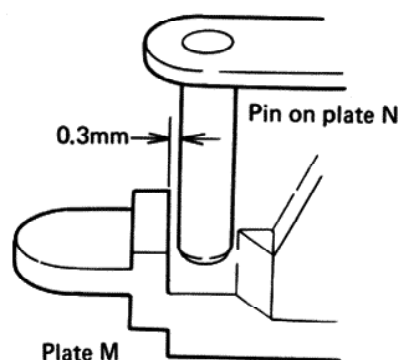

Fig. 37
2. When arm elevation is UP, so that spacing between plate M and pin of plate N shown in Fig. 37 becomes 0.3 mm, adjust screw shown in Fig. 38.